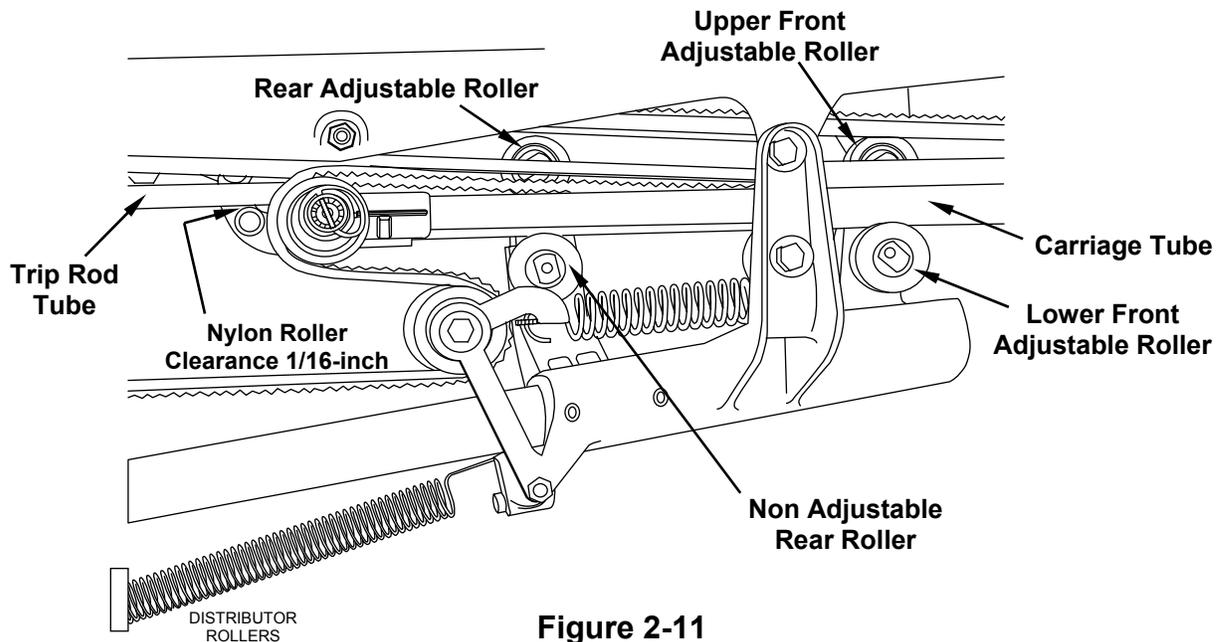
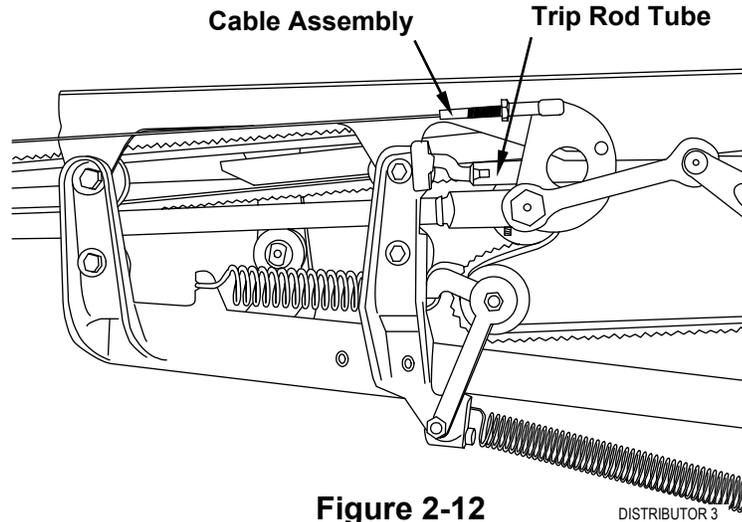

Figure 2-11
Figure 2-12
2. Position the front lower adjustable roller in its lowest position so that the distance between the roller and the carriage tube is at its maximum. (See Figure 2-11.)
7. Adjust the length of the cable assembly (Figure 2-12) so that the clearance between the nylon rollers and the trip rod tube is approximately 1/16 inch (Figure 2-11) and is the same in all positions of the distributor.